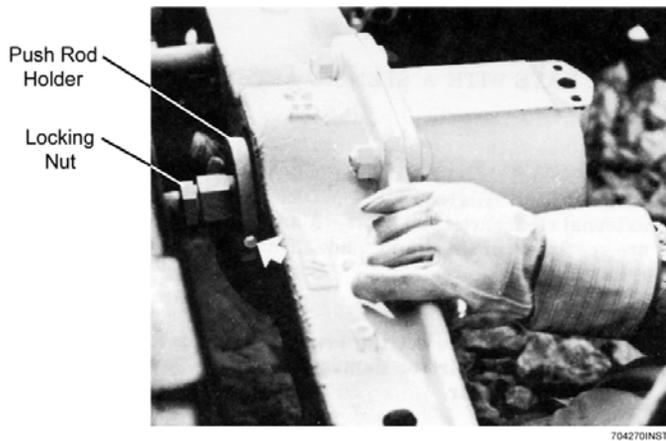

Figure 14: Push Rod Holder and Locking Nuts
5.4.1.7 Push on beam so that it ends up as close to the bolster as possible. Use two wrenches to loosen push rod locking nut (Fig. 14). Unscrew and remove push rod (15) (Fig. 11) and place it on bolster.
- 5.4.1.19 Remove spacing blocks and install brake shoes (3) onto beam (1) (If new shoes are being mounted, use only 1-1/4" or 1-1/2" thick shoes). Insert brake shoe keys (4) to hold brake shoes (3) to beams (1). Tighten push rod locking nut securely (See Fig. 14). Replace strainer (5), and gasket (6) and reattach BC hose (7) with bolts (8 & 9) and torque grade 5 bolts to 55 +/- 5 ft-lbs dry torque.